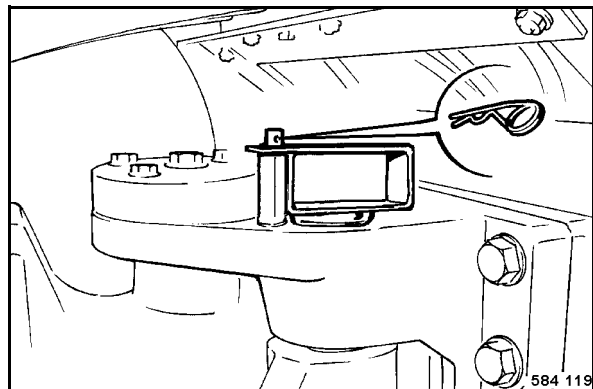

Fig. 115
- Engage the articulation lock and secure it with the spring pin (Fig. 115).